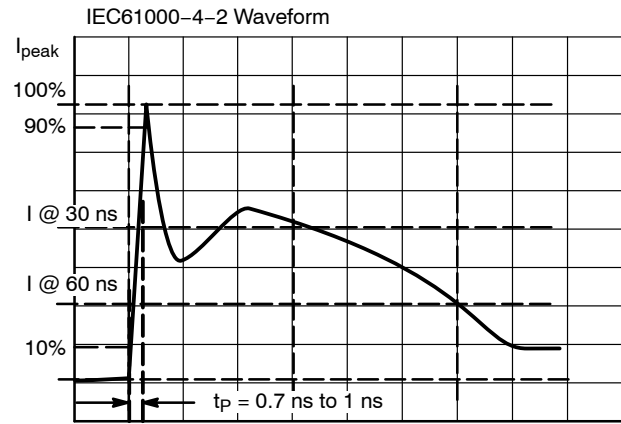

Figure 5. IEC61000-4-2 Spec
6. Typical waveform. For test procedure see Figures 5 and 6 and Application Note AND8307/D.